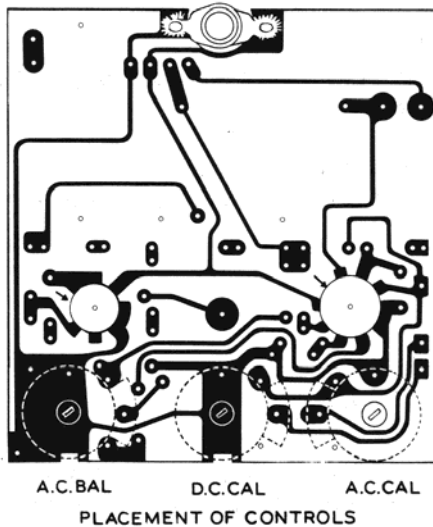

Figure 7
- ( ) Mount the three special type 10 K $\Omega$  controls from the screened side of the board so the mounting lugs and terminals protrude through to the foil side. See Pictorial 2 and Figure 7. Press the controls firmly against the board and solder the mounting lugs and terminals to the foil pattern. One mounting lug of the A. C. CAL. control cannot be soldered to the foil, so bend the lugs slightly inward in order to hold the control securely.